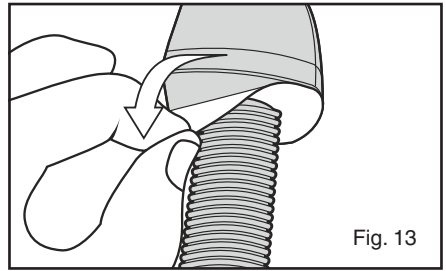

Fig. 13
14. Remove the adhesive liner on the bottom surface of the threaded soap discharge head. (see figure 13)